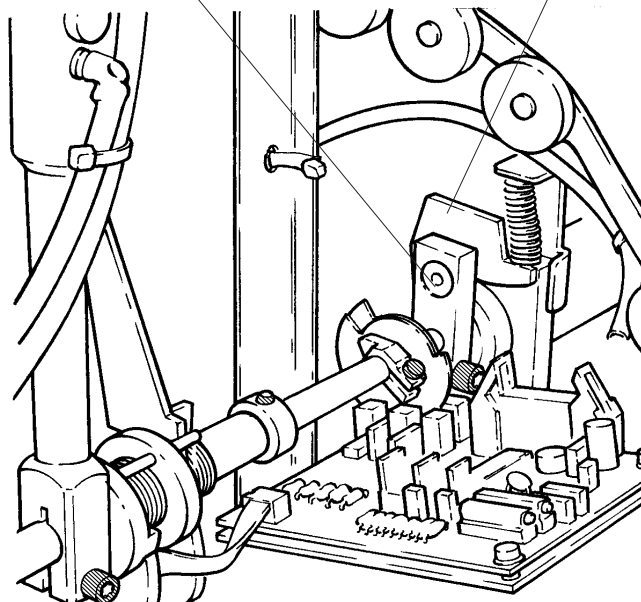

figure 3-37
- 17.** Make sure that the BALL BEARING is engaged in the DETENT. See figure 3-37.